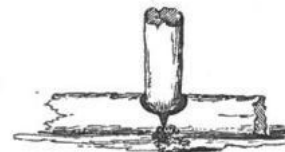

Fig. 1.
--One piece of the stick is notched in the middle, fig. 1, and